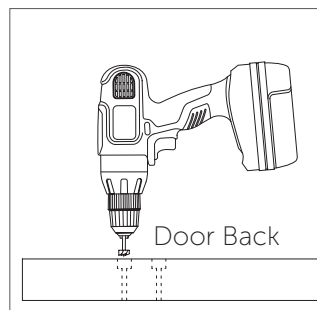

Figure 4
7. Turn the door over and using a 1-1/8" Forstner bit*, drill a 7/16" deep hole into each pilot hole (Figure 4).
5. Attach one end of the track to the wall with one standard stop, one lag screw, one spacer and one washer, using a socket wrench with 9/16" socket (Figure 4). Do not tighten.